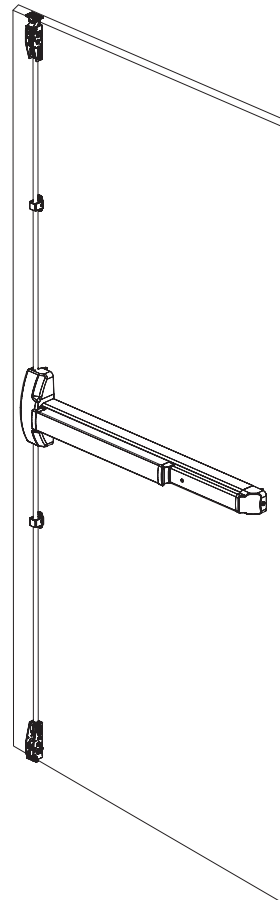

Figure 29
1. See Figure 29. Check and inspect operation of: